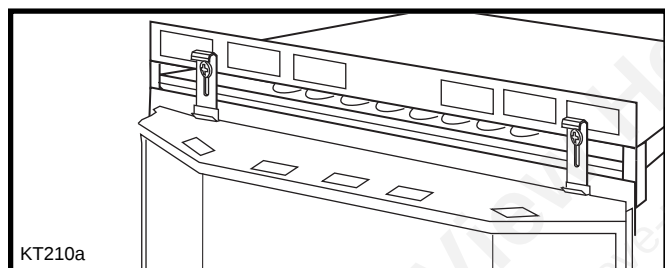

Fig. 64 Hang the window grille or the steel frame onto the lower tabs of the hanging brackets.
- Install the bay window by hanging it onto the lower tabs of the hanging brackets, as shown in Figure 64.